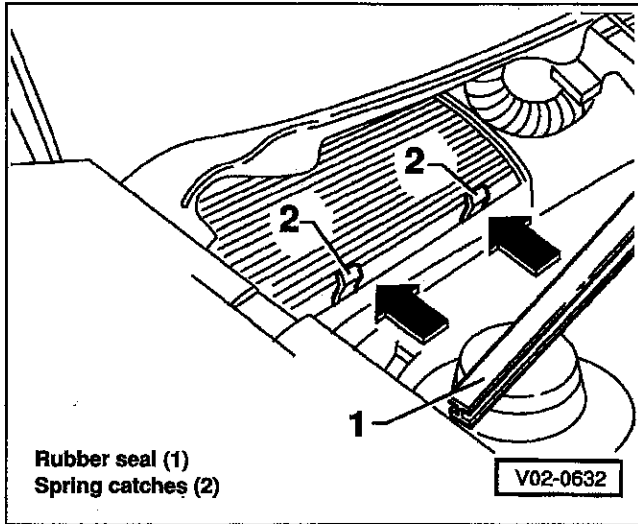

Fig. 17. Dust and pollen filter in rear of engine compartment (right plenum chamber).
1. Working in rear of engine compartment (plenum chamber) remove plastic screws attaching the filter cover. See Fig. 17.
Under normal operating conditions, the battery is maintenance free. At high outside temperatures, however, it is advisable to check the electrolyte level through the translucent battery housing. The electrolyte level should be just above the battery plates and their separators. The battery plates can be seen once the filler caps are removed. If the electrolyte level is low, replenish it by adding distilled water only. See Fig. 17.